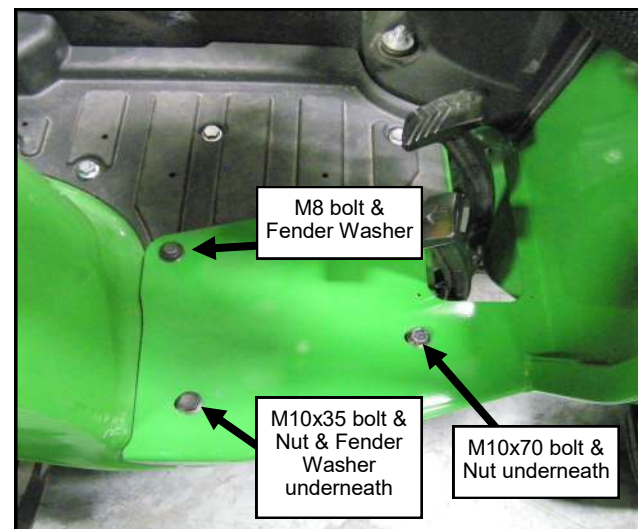

Fig. 5.2 (Loosely attach the right A-Pillar)
- 5.2** Set the Right A-pillar, as with the left, and loosely bolt it down. Use a M10 x 35mm bolt with nut underneath for the outer, rear bolt. See Figure 5.2.